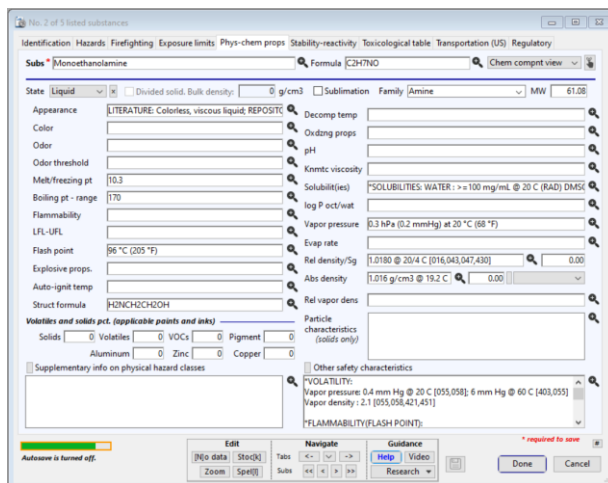

Fig 12. Chem compnt view of Monoethanolamine (Phys-chem props tab)
5) Select **Phys-Chem Properties** tab (see Fig. 12)